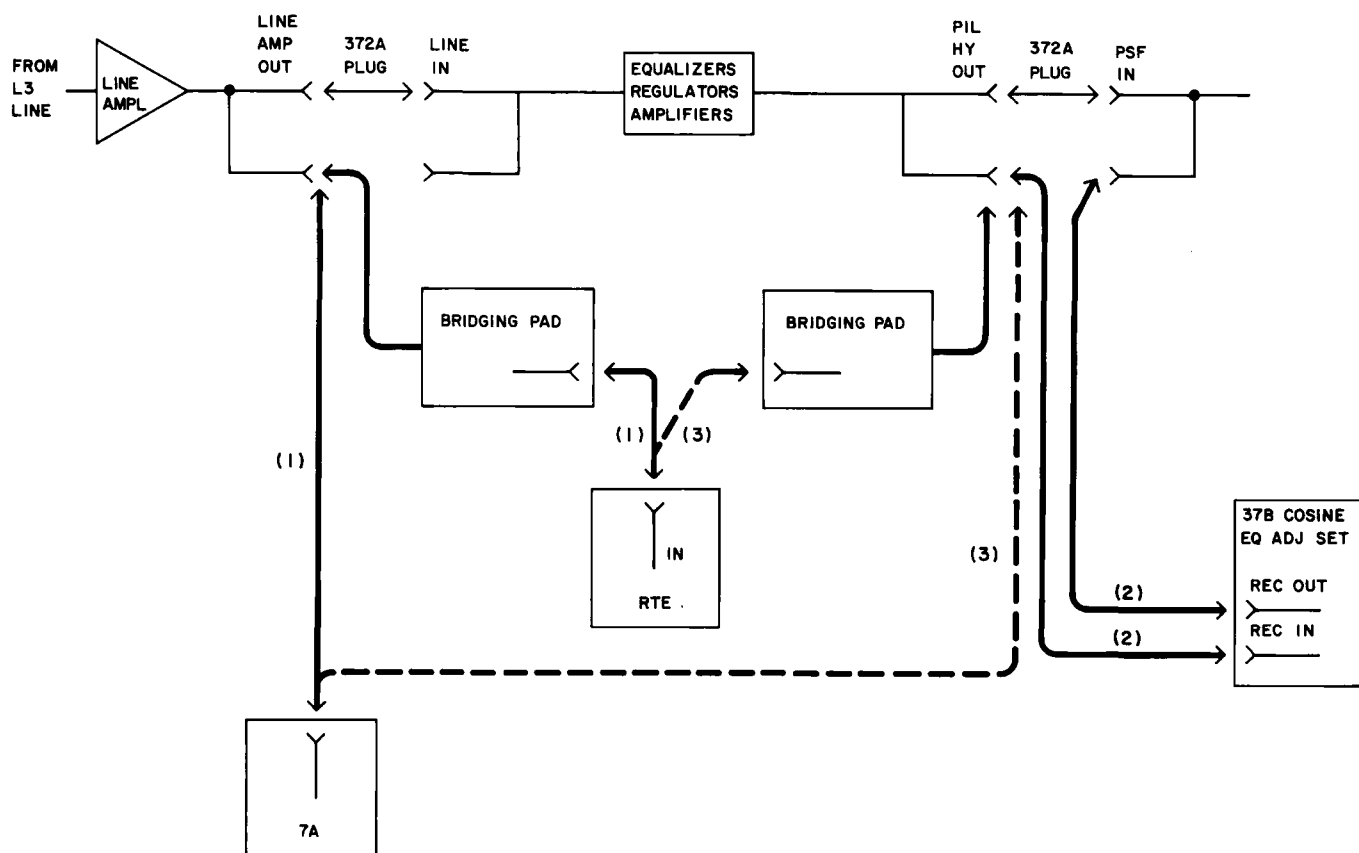

Fig. 4—Test Connections for Gain Equalization at Equalizing Auxiliary Repeater
- 10 Slowly adjust the DYN EQ 2 BAL potentiometer until the associated BAL meter reads zero (0).
- 13 Connect the RTE or the 7A to the LINE AMP OUT multiple jack [patch (1), Fig. 4].
18	Connect the 37B cosine equalizer adjustment set REC IN jack to the PIL HY OUT A multiple jack and the REC OUT jack to the PSF IN multiple jack [patch (2), Fig. 4].
26	Remove test connections to the 37B cosine equalizer adjustment set [patch (2), Fig. 4].
28	Connect the RTE or the 7A to the PIL HY OUT A multiple jack [patch (3), Fig. 4].
38	Connect the RTE or the 7A to the PIL HY OUT A multiple jack [patch (3), Fig. 4].